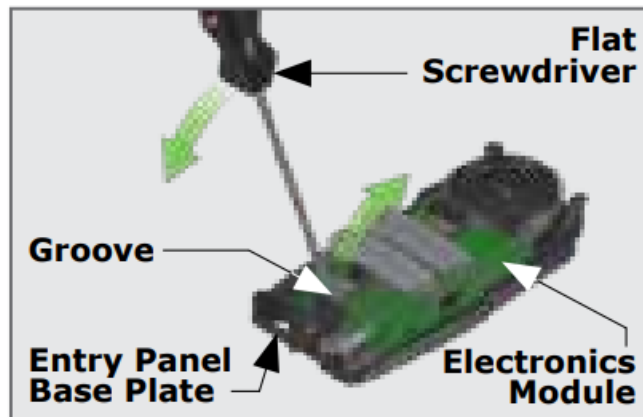

FIGURE 9
- Insert a Flat Screwdriver into the groove as shown in Figure 9, and unclip the Electronic Module from Entry Panel Base Plate.